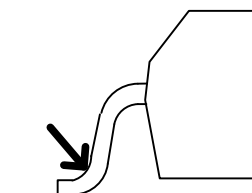

Figure 1: Total Resistance
- 10) The resistance is defined as the total resistance measured from a point of the lead next to the solder joint, assuming that the two  $I_P+$  pins (and  $I_P-$  pins) have the same potential (see Figure 1). This definition corresponds to the effective resistance used to estimate the Joule heating, calculated with  $R \times I_P^2$ .